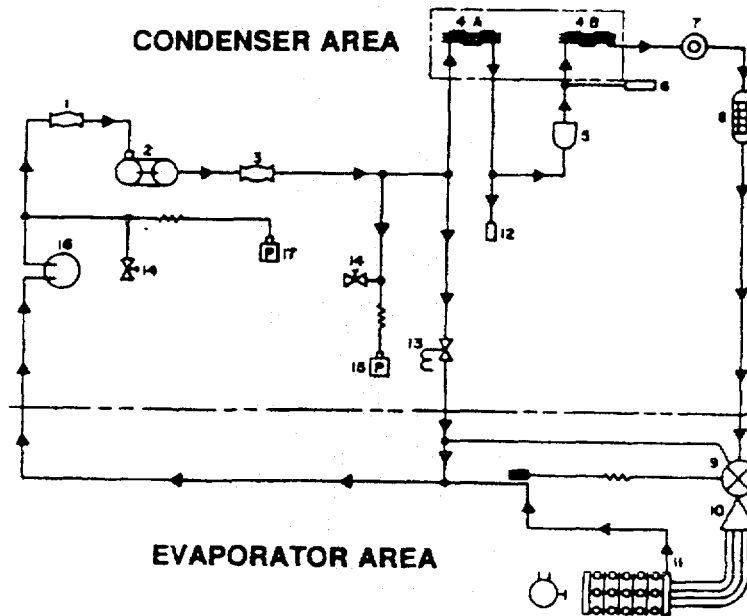

Figure 1-3. Refrigeration Flow Schematic.
**1-12. REFRIGERATION CYCLE.** (Refer to Figure 1-3.) When the control panel assembly mode selector switch is set on COOL and the temperature control thermostat set to COOL, the cooling cycle of the air conditioner is activated and the air conditioner refrigeration cycle functions in the following manner.
a. Compressor (2) starts and takes low temperature, low pressure refrigerant gas and compresses it to a high temperature, high pressure gas. This gas flows through the metal tubing to the condenser coil (4A) and receiver (5).
b. The condenser fans draw outside ambient air over and through the condenser coil (4A). The high temperature, high pressure gas from the compressor (2) is cooled by the flow of air and is condensed into a high pressure liquid.
c. The cooler, high pressure liquid refrigerant flows through the refrigerant desiccant dehydrator (filter/dryer) (8) and removes any moisture (water vapor) or dirt that may be carried by the liquid refrigerant and to the liquid indicator (sight glass) (7) which indicates the presence of moisture and quantity of refrigerant in the system.
d. The equalizer solenoid valve (13) is controlled by the temperature control thermostat on the control panel assembly. This valve closes to separate the high and low sides of the refrigerant system when compressor is running and opens to equalize the high and low pressure sides of the refrigerant system when the compressor is not running.
e. The expansion valve (9) controls the amount and pressure of liquid refrigerant to the restrictor (10) and the evaporator coil (11). The expansion valve senses the temperature and pressure of the refrigerant as it leaves the evaporator coil. By use of a sensing bulb and "external equalizer linc" the valve constantly adjusts the flow of liquid refrigerant to the evaporator coil.
f. As the liquid refrigerant leaves the expansion valve (9) it passes through the restrictor (10) and enters the evaporator coil (11). As the liquid enters the coil at a reduced pressure, the reduction in pressure and the warmer air being forced across the tubes of the coil cause the refrigerant to boil and change to a gas (vapor). The evaporator fans circulate the warm air from the conditioned space over and through the evaporator coil. Refrigerant absorbs heat when it changes from a liquid to a gas. As the air from the conditioned spaces comes in contact with the evaporator coil, the air is cooled.
g. The low pressure refrigerant gas is then drawn back through the accumulator (16) to the compressor (2) and the cycle is repeated.
h. The linear actuating cylinder (12) automatically controls the condenser air discharge louver assemblies to maintain an adequate discharge pressure.
i. The service valves (14) are provided for charging, and general servicing of the high and low pressure sides of the refrigerant system.